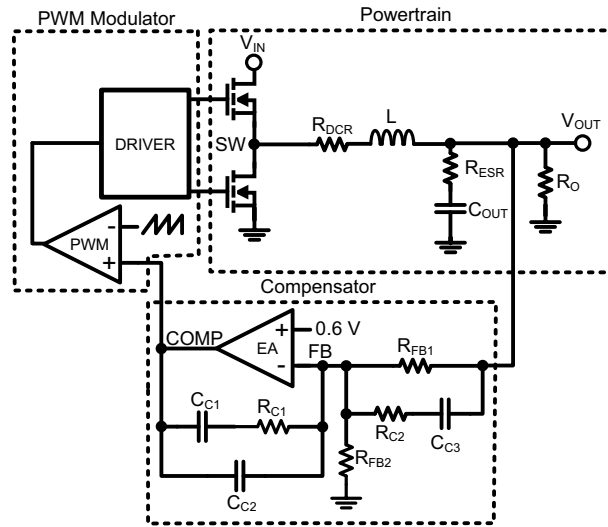
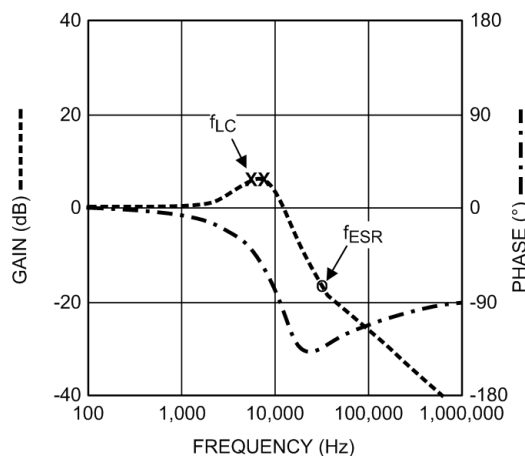

Figure 35. Control Loop Schematic Diagram
Figure 36. Powertrain Bode Plot
There are three main blocks of a voltage-mode buck switcher that the power supply designer needs to consider when designing the control system: power train, PWM modulator, and compensator. A diagram representing the control loop is shown in Figure 35.
The power train consists of the filter inductor (L) with DCR ( $R_{DCR}$ ), output capacitor ( $C_{OUT}$ ) with ESR (effective series resistance  $R_{ESR}$ ), and effective load resistance ( $R_O$ ). The error amplifier (EA) regulates the feedback (FB) voltage to 0.6V. The passive compensation components around the error amplifier establish system stability. Type-III compensation is shown in Figure 35. The PWM modulator establishes the duty cycle command by comparing the error amplifier output (COMP) with an internally generated ramp set at the switching frequency.
Figure 36 shows the bode plot of the above transfer function.
The complex poles ( $f_{LC}$ ) created by the filter inductor and output capacitor cause a 180° phase shift as seen in Figure 36. The phase is boosted back up to -90° by virtue of the output capacitor ESR zero. The phase shift caused by the complex poles must be compensated to stabilize the loop response. The compensation network shown around the error amplifier in Figure 35 creates two poles, two zeros and a pole at the origin. Placing these poles and zeros at the correct frequencies optimizes the loop response. The compensator transfer function is: